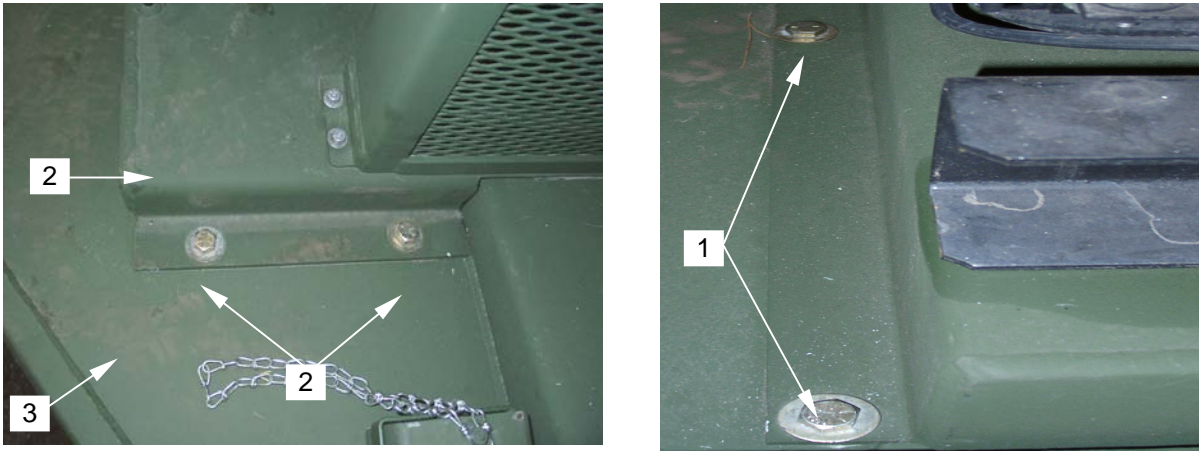

Figure 3. Removing Skid Mounting Bolts
12. Remove seven bolts, nuts and flat washers (**figure 3, item 1**), securing the engine/vacuum pump skid (**figure 3, item 2**) to the trailer frame (**figure 3, item 3**).